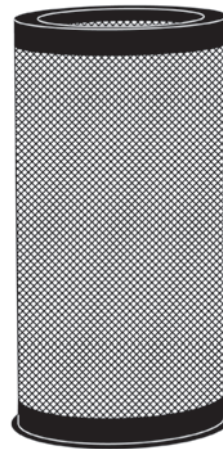

figure 8.
This application provides filtration of all Outdoor Air (OA) that is brought into the home through the HRV/ERV, thus reducing the introduction of dust, pollen and mold from the outdoor air. For systems that have HRV/ERV units installed, we recommend ducting the 'fresh air' outflow from the HRV/ERV into the HEPA system. If the HRV/ERV CFM (cubic feet per minute) rating is lower than that of the HEPA system, an additional return needs to be installed into the HEPA system (See figure 8.) The outflow air from the HEPA system then needs to be installed into the main return of the air handler/furnace system. Ensure that you follow the proper installation instructions as outlined in the HRV/ERV Installation manual(s).